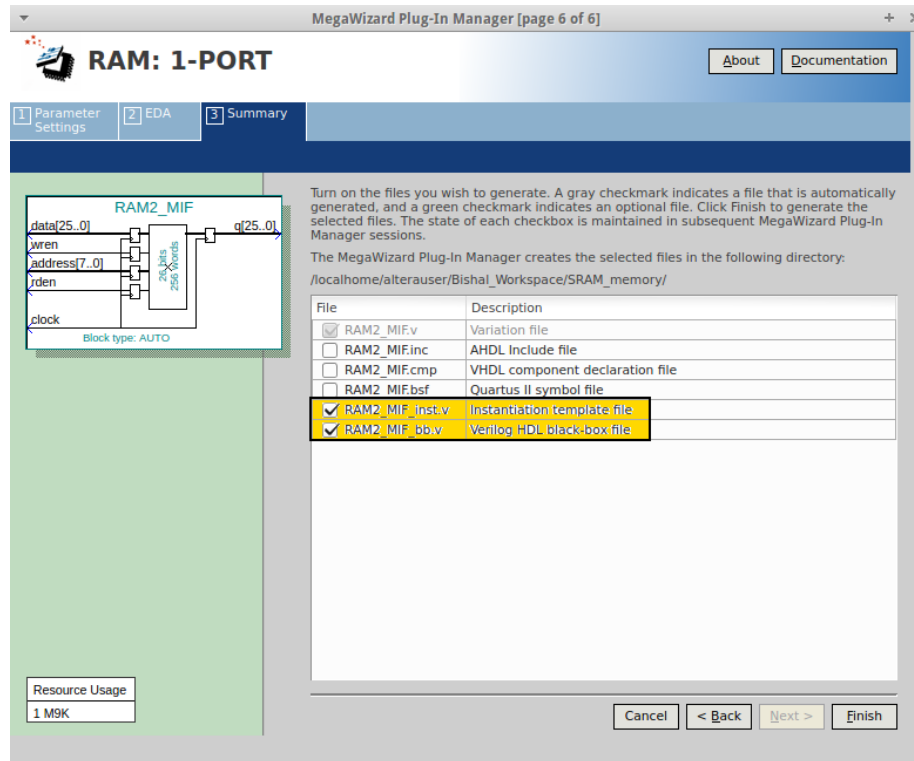

Figure 7: Megawizard RAM: 1-PORT Configuration Final Step
5. The last page, i.e. 6 of 6 on MegaWizard, make sure the last two options are checked as shown in figure 7. Click **Finish**. After successfully creating the memory block you will be asked if you would like to add it to your project, click **YES** and you are ready. Now you just need to instantiate the module in your main Verilog file with valid signals.